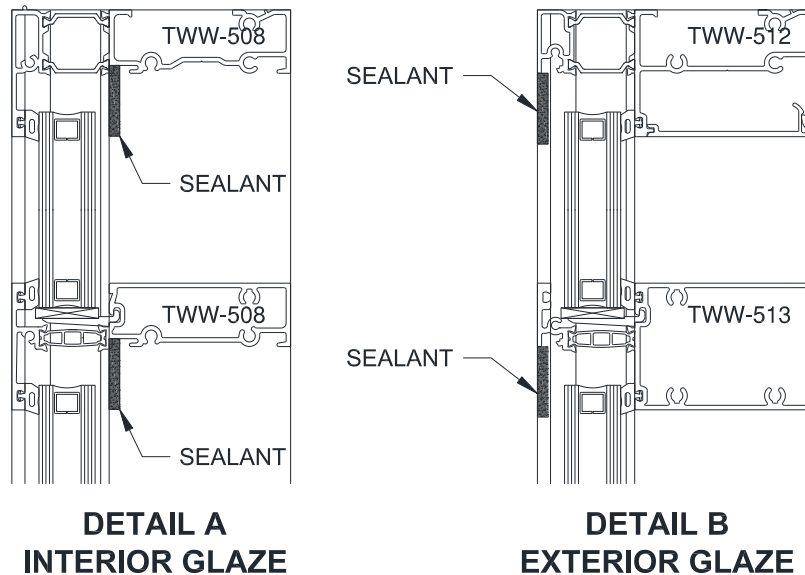

Figure 88: Sealant Application at Glass Stops
29.1 Clean the Vertical where the exterior face of the Head and Intermediate Horizontal glass stops will connect. Reference *Figure 88* for location.
29.2 Just prior to installing Glass Stop, apply Sealant to the Vertical where it connects to the Glass Stop, as detailed in *Figure 88*.